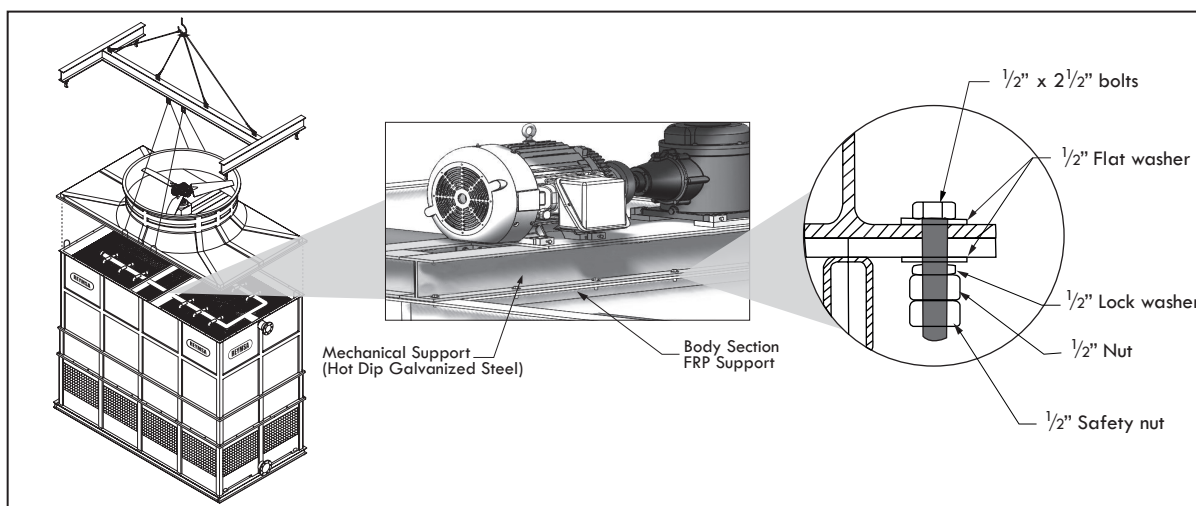

Figure A-51: Fan Deck assembly for an RTG model.
- L. RTG models have a section called "Fan Deck" which is at the top of the Tower. The Fan Deck with duct contains a gear drive fan and a motor mounted in a structural Hot Dip Galvanized Steel, and a corrosion resistant safety screen mesh. (See Figure A-51).
- O. After The Fan Deck has been set in place, proceed to bolt down the Mechanical Support (Hot Dip Galvanized Steel) to the Body Section FRP support inside of the Fan Deck Section (see figure A-51).